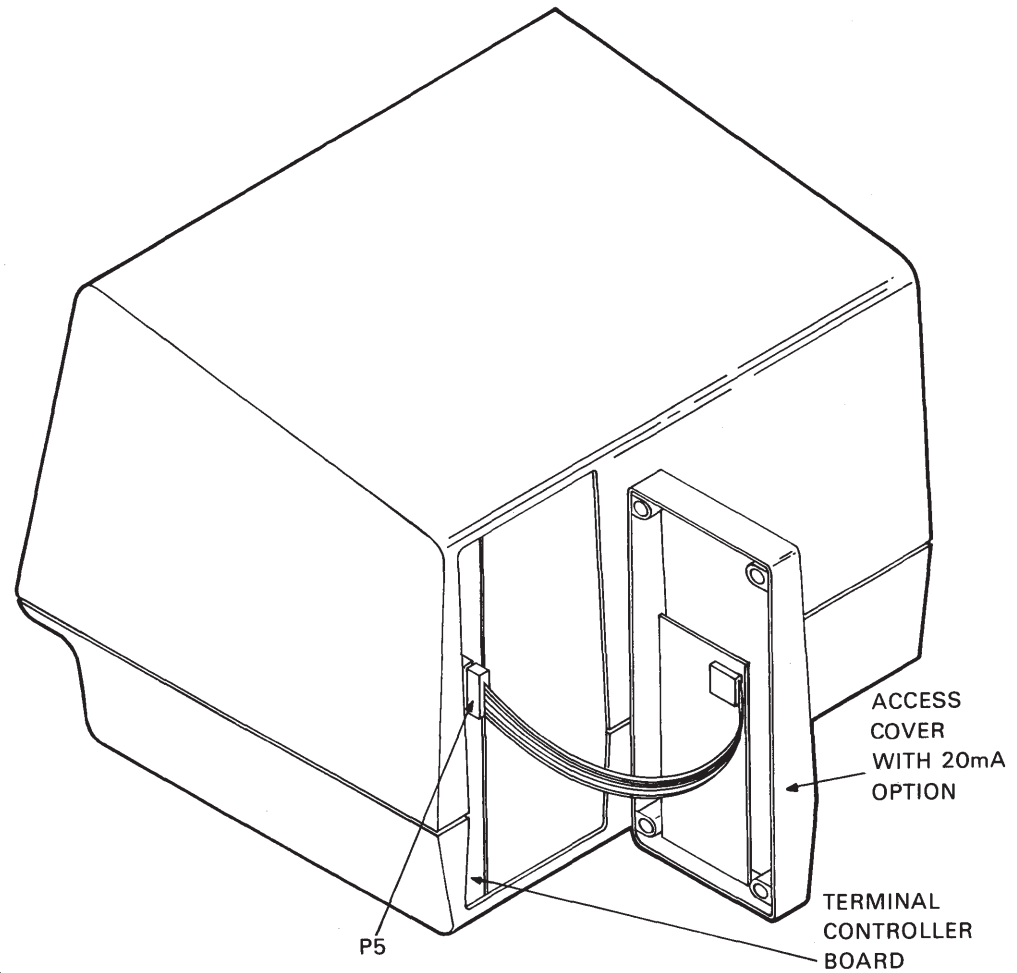

Figure 4-4
8. Connect P5 to J5 on the terminal controller board (Figure 4-4).